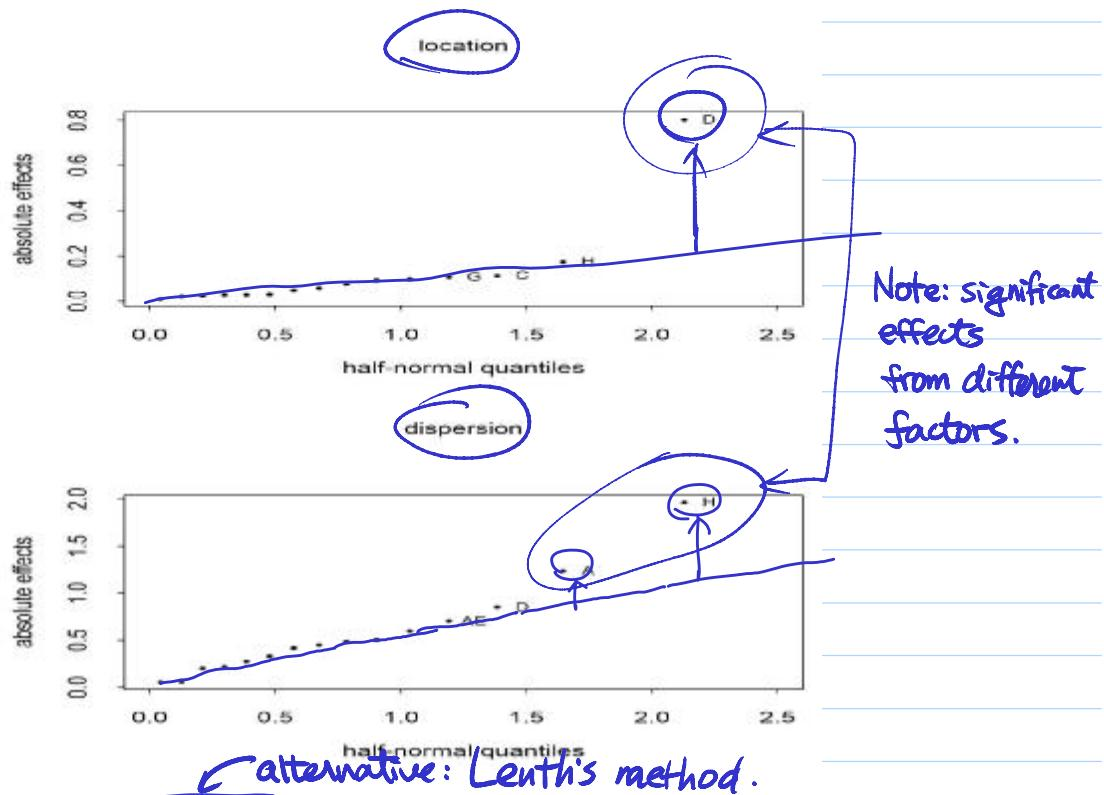

Figure 2: Half-Normal Plots of Location and Dispersion Effects, Layer Growth Experiment
- From the  $\bar{y}_i$  and  $\ln s_i^2$  columns of Table 5, compute the factorial effects for location and dispersion respectively. (These numbers are not given in the book.) From the half-normal plots of these effects (Figure 2),  $D$  is significant for location and  $H, A$  for dispersion.